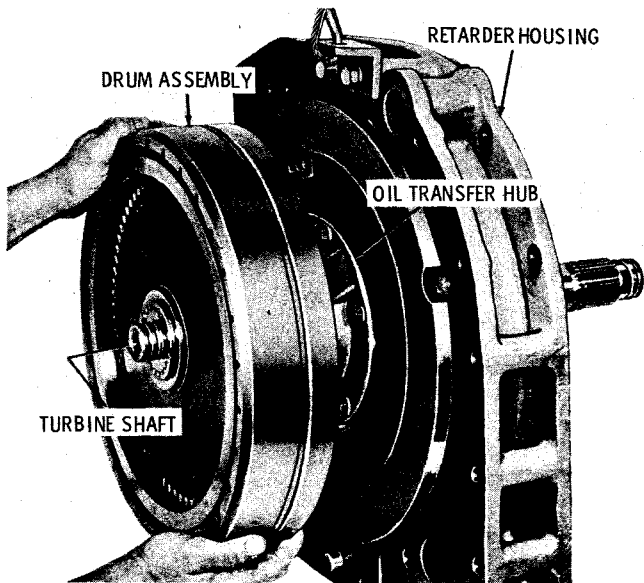

Fig. 5-45. Removing low-splitter clutch drum assembly (CBT, CLBT, VCLBT) S1590
(6) Attach one strand of the lifting sling to the retarder housing (fig. 5-45). Support the housing in a vertical position and remove the low-splitter clutch drum assembly from the turbine output shaft. Refer to paragraph 6-22 for rebuild of the low-splitter clutch drum. Remove five bolts and lockwashers from the oil transfer hub. Remove the hub from the retarder housing.
press the shaft and retarder rotor out of bearing. This will free the rotor and a splined washer which may be lifted out. Next, turn housing over and remove the bolts and washers, and sleeve (fig. 5-45). Remove the turbine output shaft bearing. If the retarder rotor, or shaft requires replacement, remove the snapping, support the rear of the rotor hub and press shaft out. Refer to paragraph 6-21 for rebuild of the retarder housing.